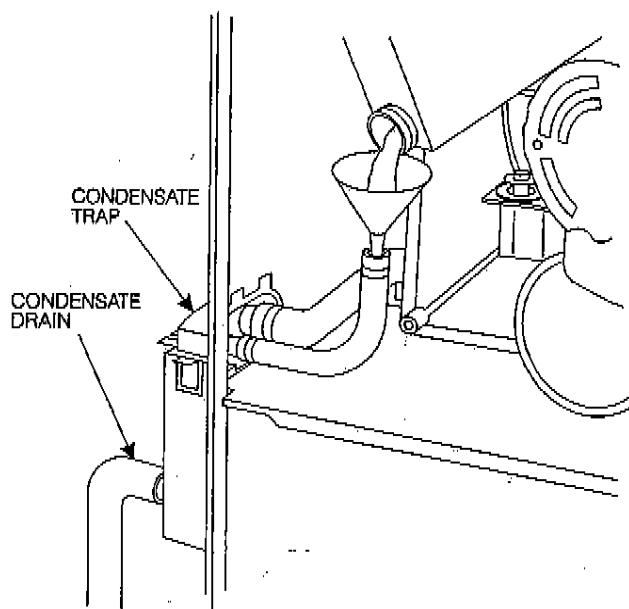

Fig. 42—Filling Condensate Trap
- Insert funnel into tube and pour 1 quart of water into tube. This should overflow the trap and flow into an open drain. (See Fig. 42.)
- (1.) Remove burner enclosure front and caps that conceal adjustment screws for gas valve regulators. (See Fig. 42.)